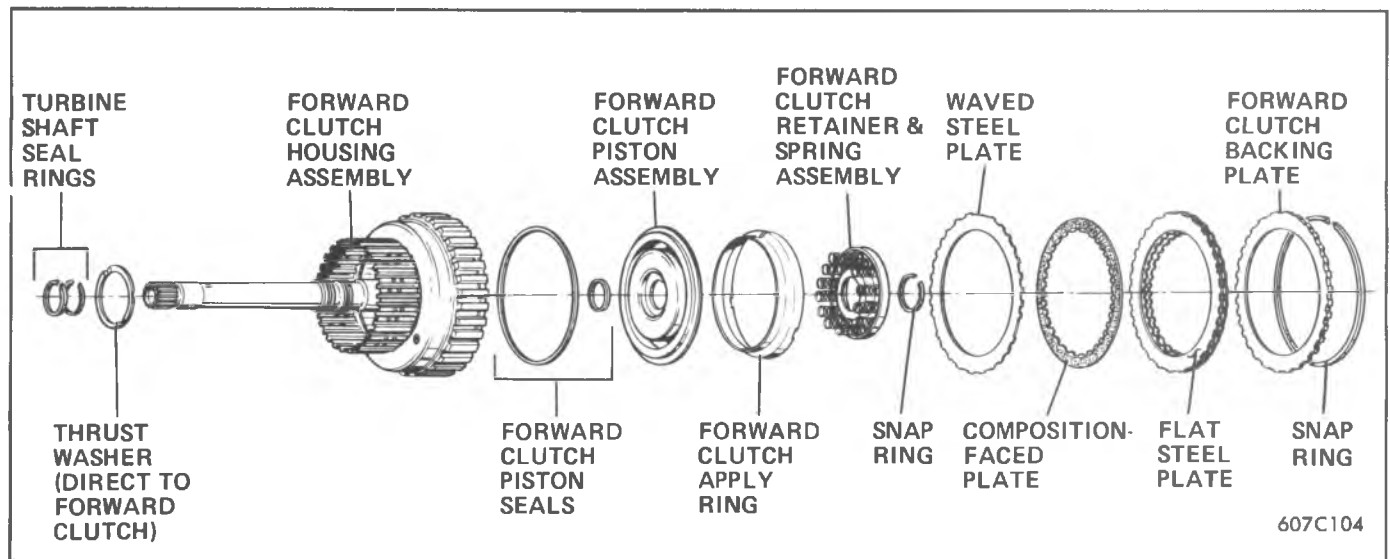

Figure 7A1-119 Forward Clutch Assembly - Exploded View
6. Remove the clutch plates from the forward clutch housing and keep them separated from the direct clutch plates. (See Clutch Plate Usage Chart, Figure 7A1-93).